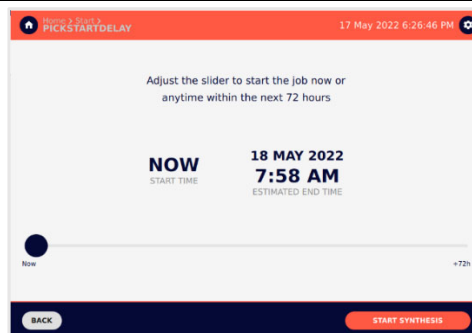

Figure 4. Pick Start Delay Screen
- On the Pick Start Delay screen (Figure 4), use the slider to indicate when you want the synthesis process to complete and press **START SYNTHESIS**.